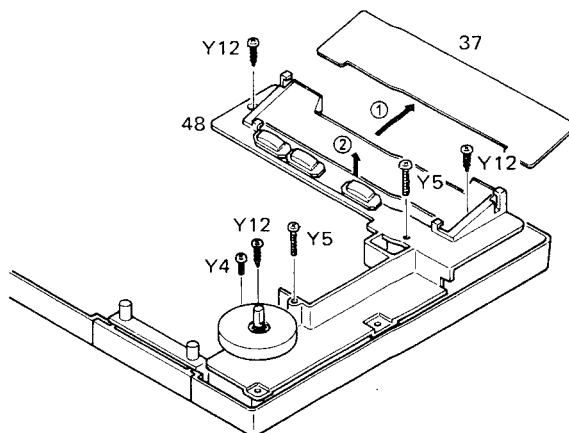

Fig. 4
2. Dismount the dial scale (37) from the bracket mounting (48) and remove the six screws (Y4 = 1, Y5 = 2, Y12 = 3) securing the latter. This done, the meter PCB (128) can be pulled off the socket on the connector PCB (126) together with the bracket mounting (48). (cf. Fig. 4)